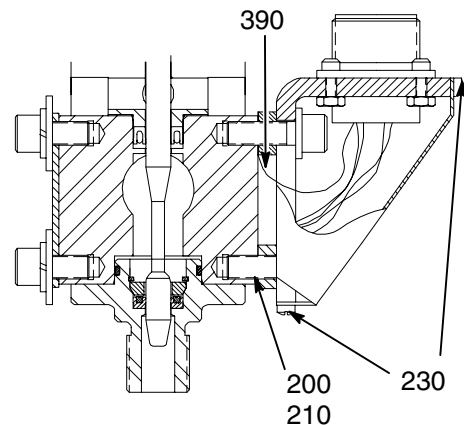

Fig. 13
5. Reconnect the cable receptacle to the automatic dispense valve. See Fig. 13.
- b. Reconnect and secure the ring terminal (390) to the socket head screw (200).
- c. Connect the receptacle to the dispense valve body. Then secure it with the two socket head screws (200) and (210).
- d. Reattach the receptacle cover. Then secure it with the two screws (230).